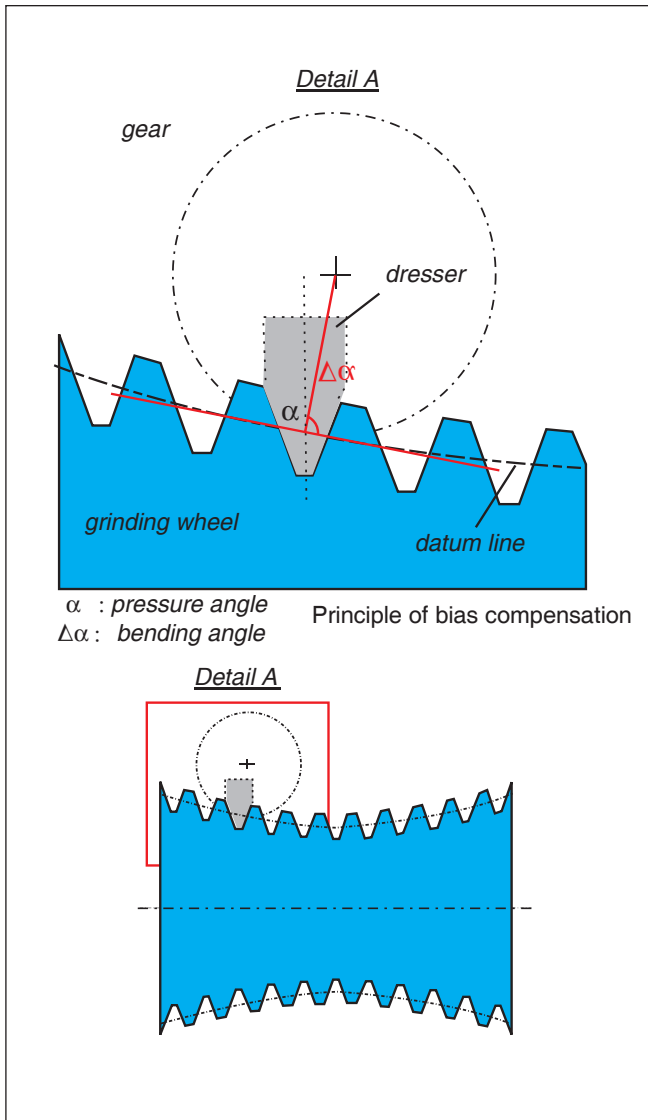

Figure 25—Special dressing technology applied to the grinding wheel to eliminate bias error when making a lead crown.
2. **Threaded wheel grinding** Special, patented software and machine dressing capability are applied to create on the grinding wheel different geometric proportions over its length. This is an example of a Gleason software solution to eliminate bias error or to make a bias correction (Figs. 25–27).